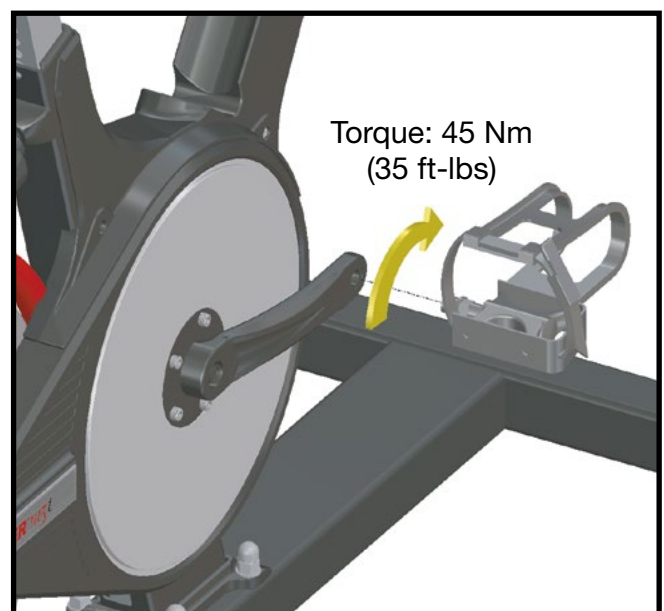

Figure 10. Installing the Right Pedal, Turn Clockwise
- Right Pedal** - Thread the right pedal (marked R) into the right side of the right crank arm by turning it clockwise, refer to Figure 10.